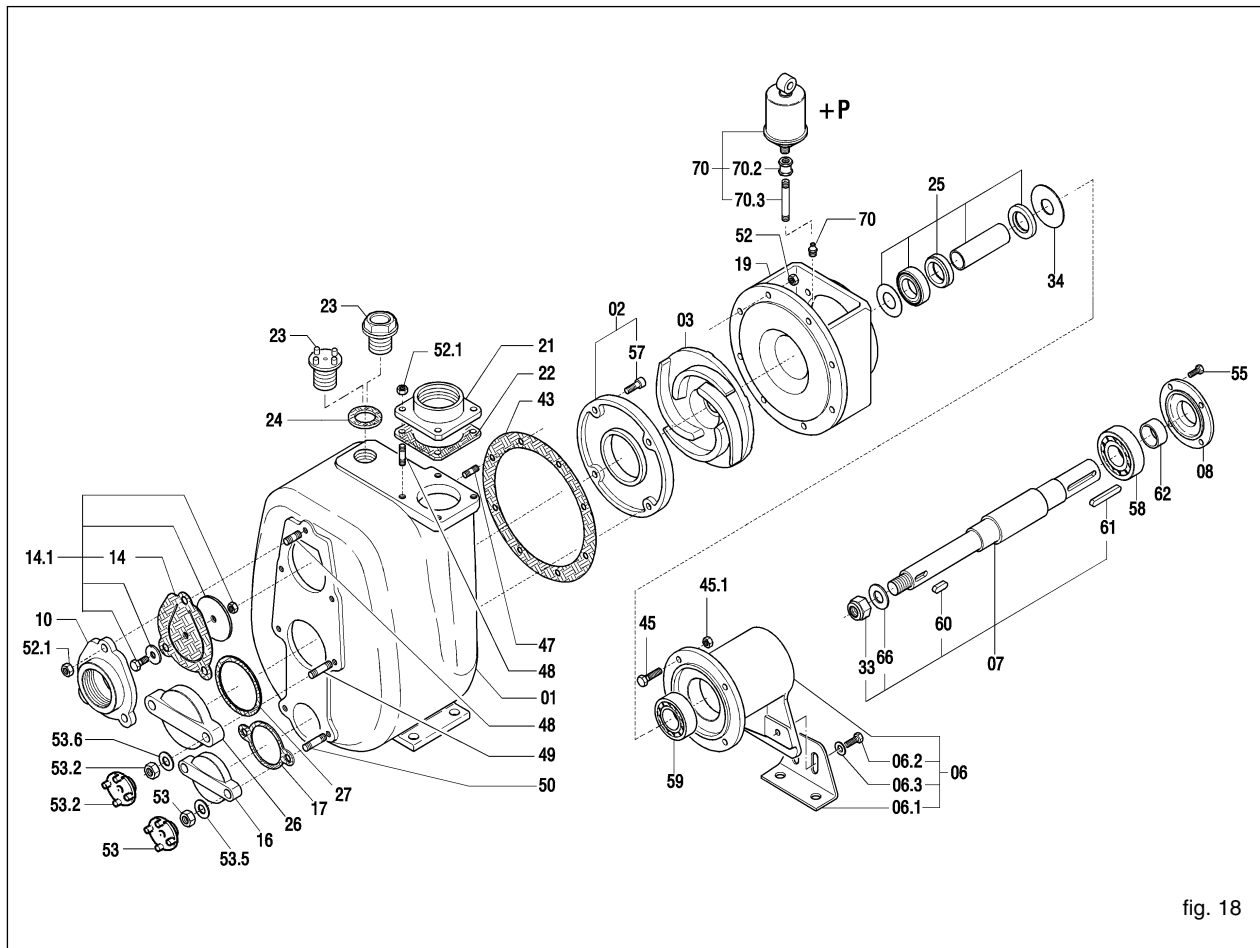

fig. 18
12.2 Replacing the impeller (fig. 18)
- Unscrew the nuts (52) and remove the pump casing taking care not to damage the casing gasket (43).
- Block the impeller (03) and unscrew the self-locking impeller nut (33).
- If necessary, replace the casing gasket (43).
12.3 Replacing the wear plate (fig. 18)
- Unscrew the nuts (52) and remove the pump casing, taking care not to damage the casing gasket (43)
- Unscrew the wear plate screws (57)
- Remove and replace the wear plate (02)
- If necessary, replace the casing gasket (43)
12.4 Replacing the check valve (fig. 18)
- Slip off the suction flange (10)
- Slip off the check valve (14)
- Clean the valve seat of the suction flange (10) and reassemble it
12.5 Replacing the mechanical seal, type 1 or 2 (figs. 18, 19, 20)
12.7 Maintenance of the bearings (fig. 18)